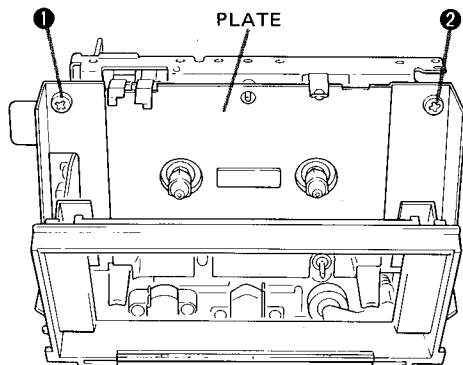

Fig. 8
2. Remove the screws 1 and 2 in Fig. 8 and then remove the plate.